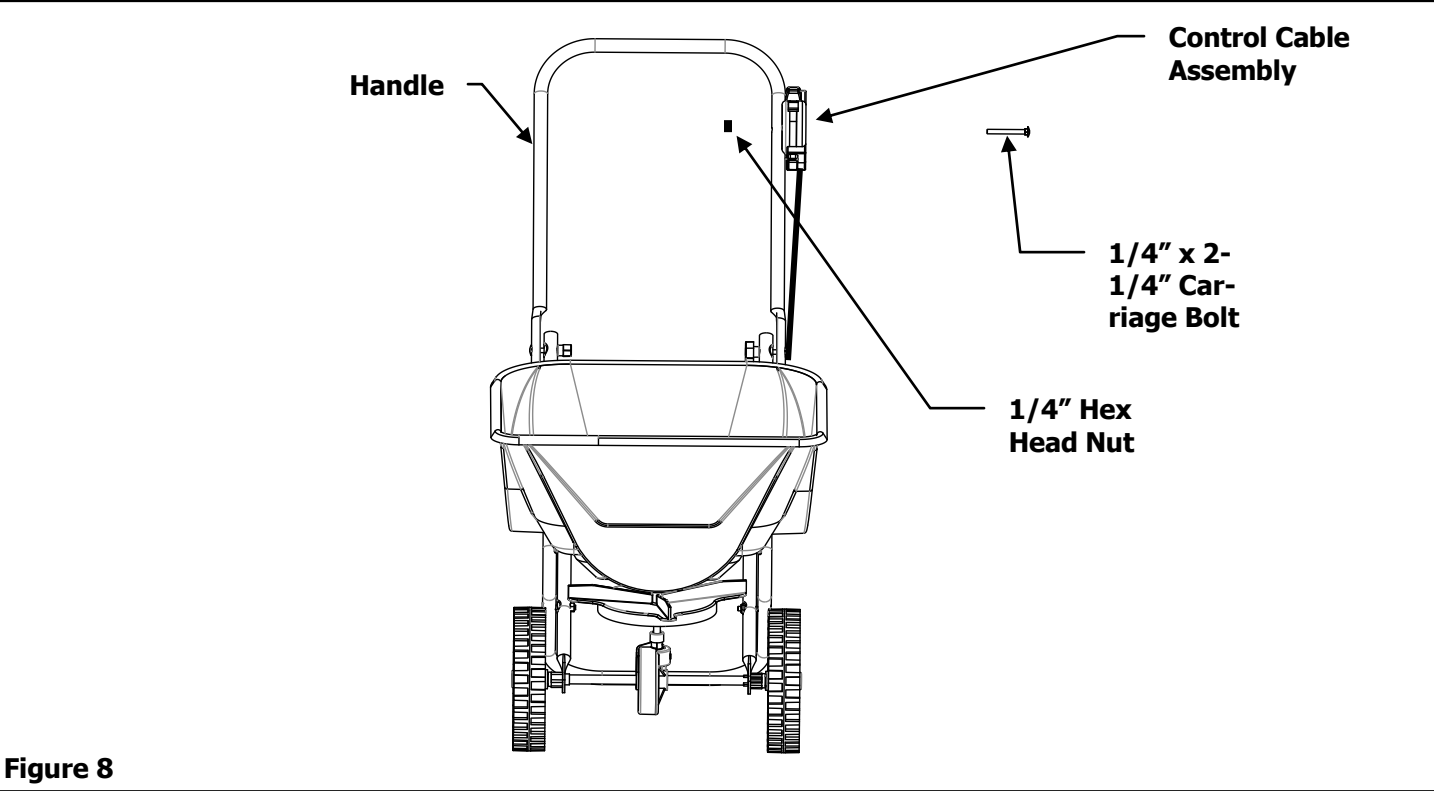

Figure 8
8. Attach the Control Cable to the Handle using one 1/4" x 2-1/4" Carriage Bolt and one 1/4" Hex Head Nut. Insert the 2-1/2" Carriage Bolt into the hole in the Control Cable and through the hole in the Handle, secure with a 1/4" Hex Head Nut. See Figure 8.